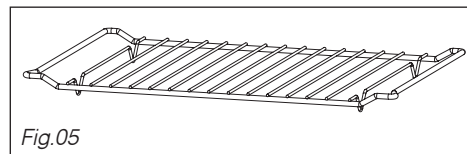

Fig.05
• **The grill (Fig.05):** may be used to toast, brown or grill. The grill must under no circumstances be used with other metal containers in the microwave, grill + microwave or fan cooking + microwave functions.